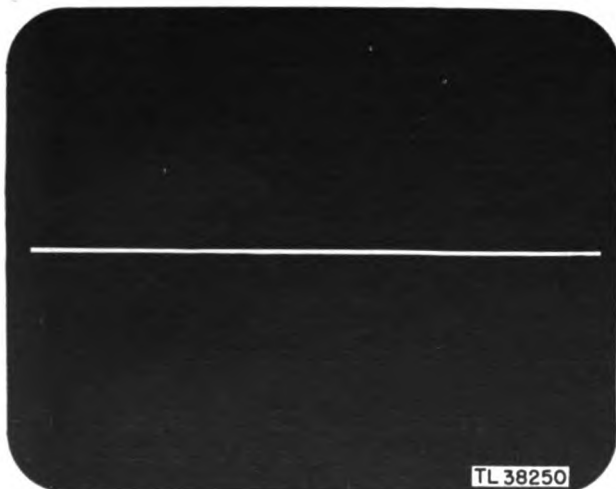

Figure 71. Focusing.
h. Readjust the INTENSITY control until a visible, but not bright, line is obtained (fig. 71).